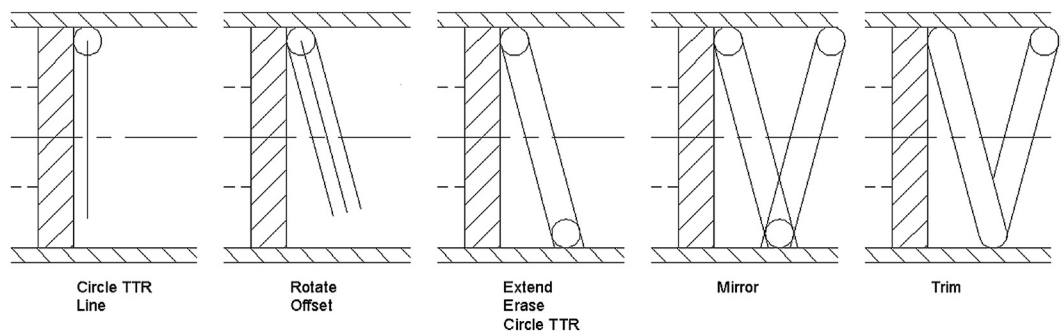

FIGURE 8.31
Step 11. Now, how do you do the spring? Well, this is where the Circle/TTR comes in. Although we have not practiced this version of the circle command, it is very simple to do. Start it up and select the TTR option. Then, pick the vertical and the horizontal lines where the circle needs to go (seen in Figure 8.31) and specify a radius (0.10"). One way of proceeding is to draw a straight arbitrary line down from the center of that circle, rotate the line 15° about that center point, then offset 0.1" in each direction, erase the original line, extend the two new ones to the bottom (if necessary), and repeat the process, as seen in Figure 8.31. Once a set is done, you can mirror the rest and trim carefully to create the impression of a coiled spring.